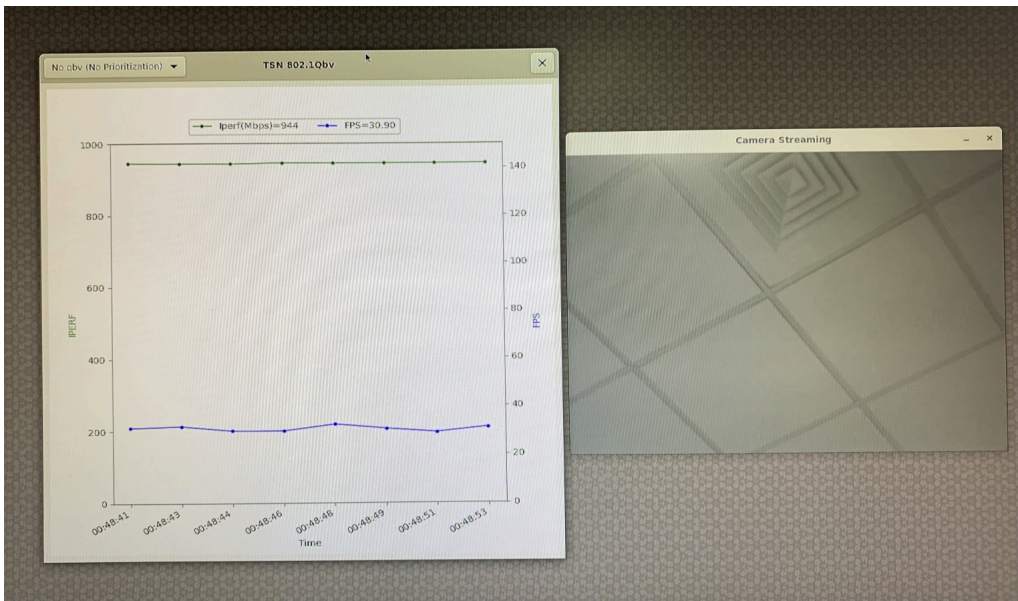

Figure 42. Default graph window and camera window
- After a successful start of the demo, the default graph window and camera window show up, as shown in Figure 42.